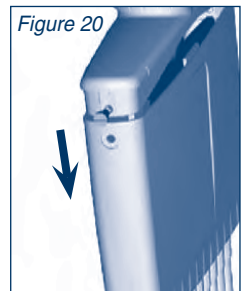

Figure 20
- Gently pull the ejector-cover away from the head (figure 20).